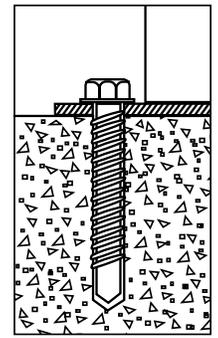

Figure 6
9. Insert the four concrete Wedge-Bolt Anchors into the corner holes of the mount. Begin tightening the Wedge-Bolt Anchor by rotating clockwise and applying pressure in toward the base. This will engage the first few threads as the Wedge-Bolt Anchor begins to advance. Continue to tighten until the head of the Wedge-Bolt Anchor is firmly seated against the post mount (Figure 6). Repeat for the remaining Wedge-Bolt Anchors.